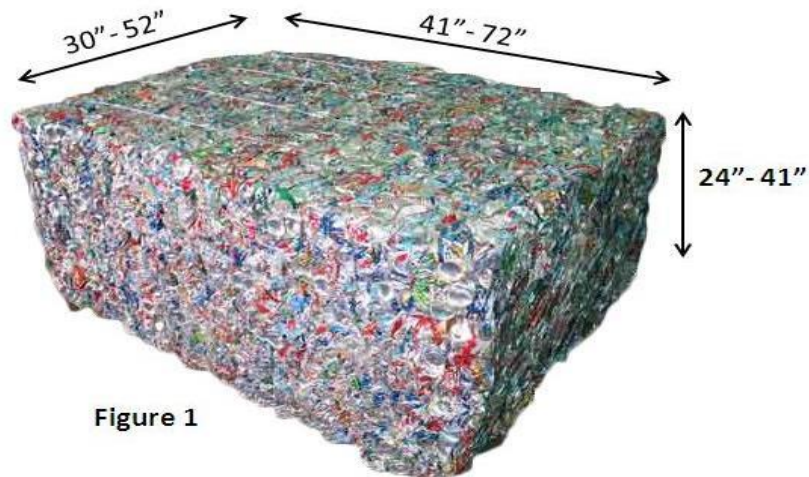

Figure 1
- 5.h.2 Bales of class III (see figure 1) must be a least 30 cubic feet with dimensions in inches in the following ranges: 24" to 41" x 30" to 52" x 41" to 72".